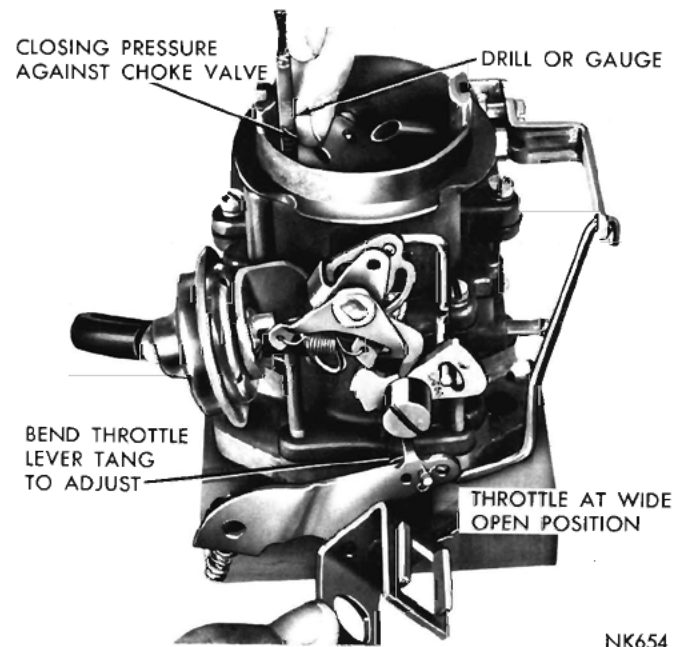

Fig. 18—Measuring the Choke Unloader Setting (wide open kick)
(1) Hold the throttle valve in the wide open position, insert Tool T109-28 or  $\frac{3}{16}$  drill between the upper edge of the choke valve and the inner wall of the air horn, as shown in (Fig. 18).
(2) If no drag is felt, or if too much drag is apparent, bend the unloader tang on the throttle lever, until correct clearance has been obtained.